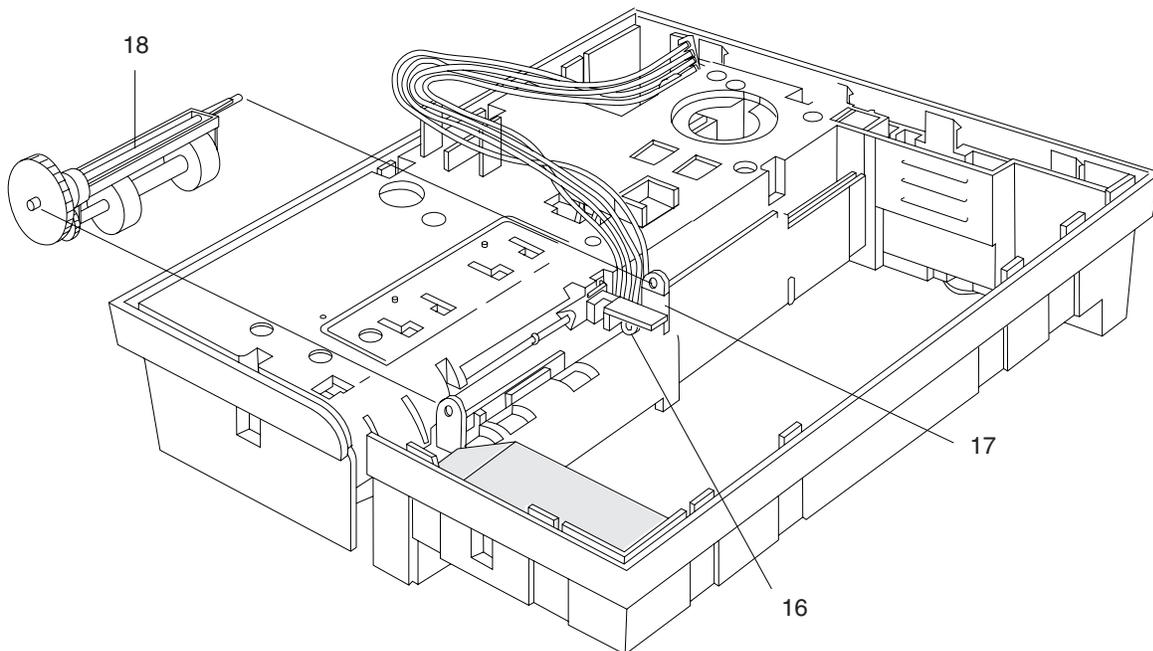

Figure E-7. Part 7. Removing the Toggle Assembly and Document Sensor
Note: Pull the toggle shaft, see (18) in Figure E-7 on page E-8 away from the document insert/customer receipt motor before you lift the upper frame assembly.